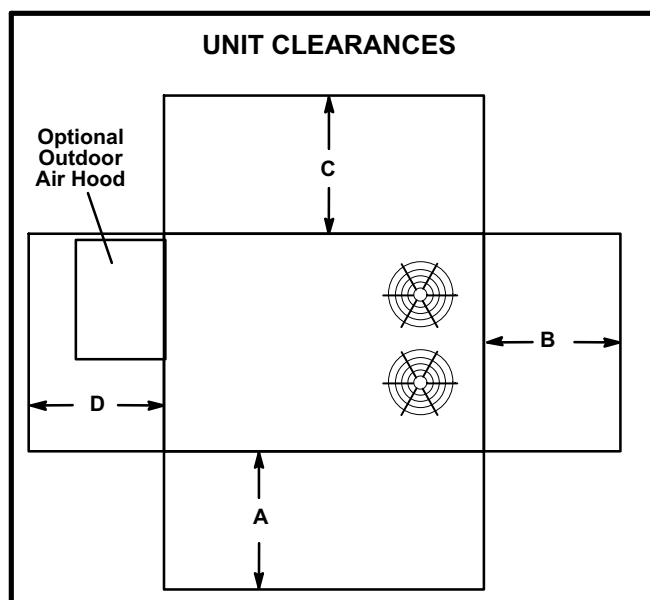

FIGURE 1
- 2- Specified installation clearances must be maintained when installing units. Refer to figure 1.